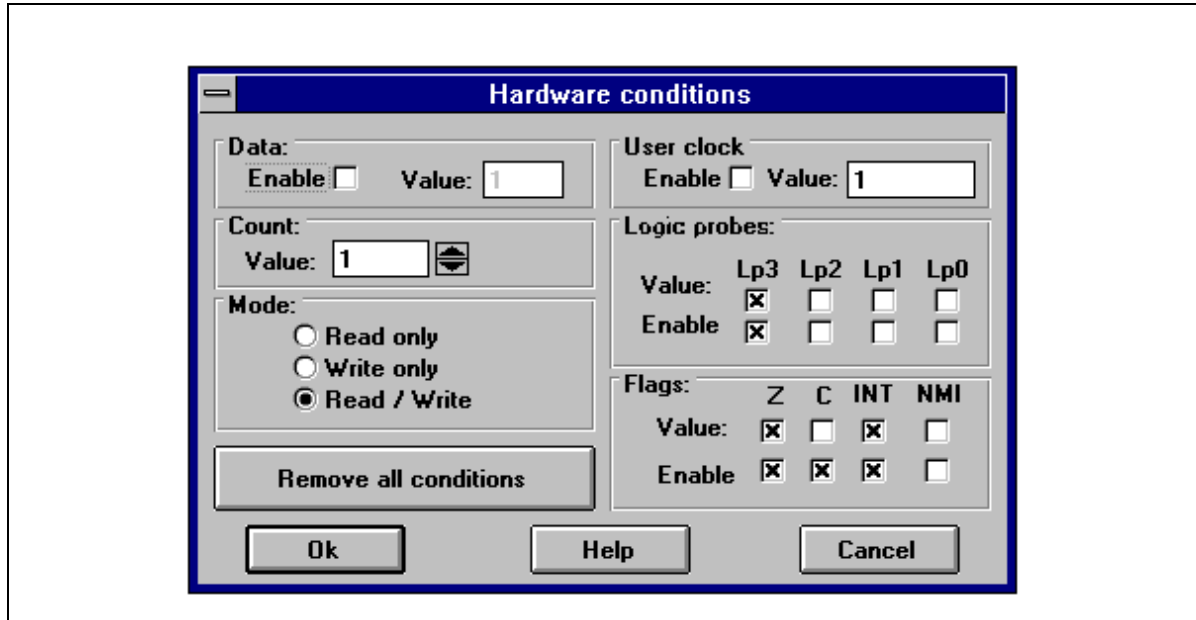

Figure 22: Hardware conditions window
- 2 Click the **Conditions** button. The **Hardware Conditions** window opens as shown in *Figure 22*.